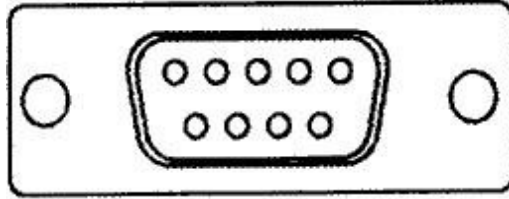

Figure 25
1. Connect a serial printer to the DB9 port (J9) on the back of the controller board. See Figure 25